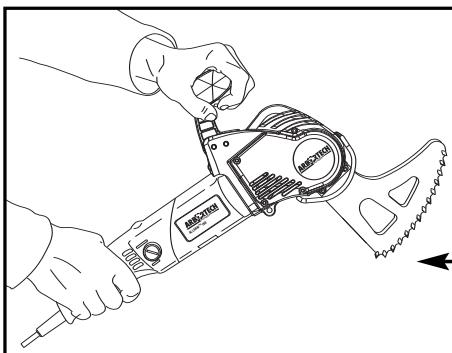

Fig.5
- Hold the tool by both the top handle and the motor housing, in a way which is most comfortable to do the work. (Fig.5 & 6)